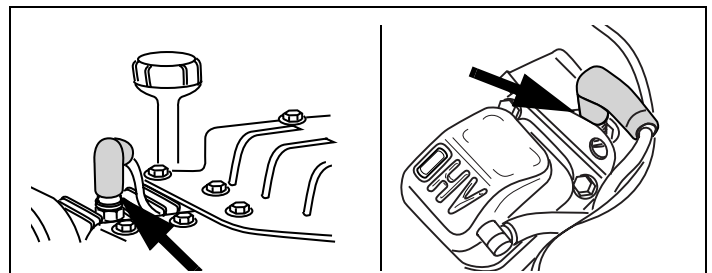

Figure 54. Typical Spark Plug Connection
10. Connect spark plug wire plug wire to spark plug. See Figure 54.